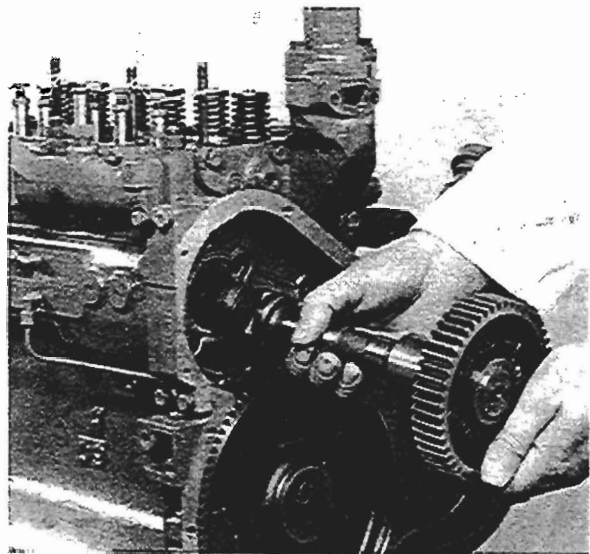

Fig. K8
4. Lift the tappets and remove the camshaft and gear from the cylinder block (see fig. K8). Ensure that no damage occurs to journals, cams or tappets.